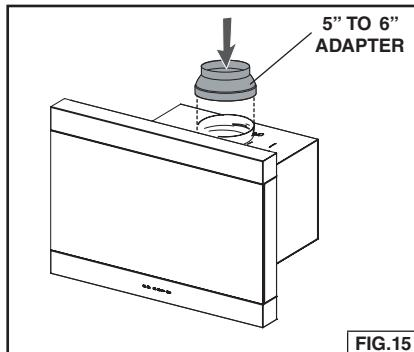

FIG.15
2. Attach the 5" to 6" adapter to blower discharge and tape joint with aluminum duct tape. Fig. 15.